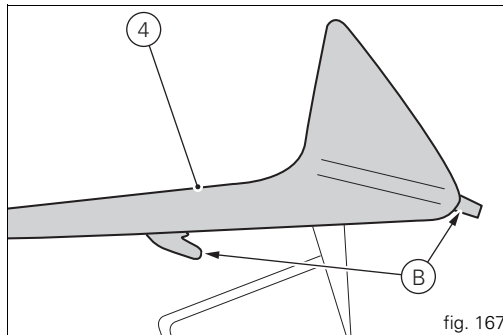

fig. 167
Reconnect the connector (5) and refit the structures that were removed being careful to insert the tabs (B, fig. 167) into the slots (A, fig. 166) made in the top fairing.